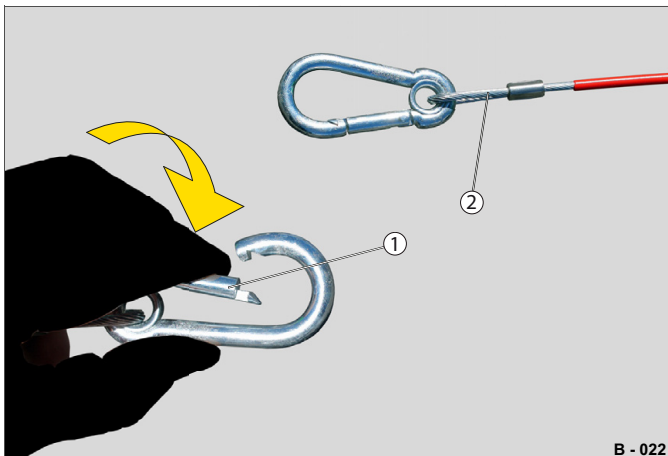

Fig. 20 Safety cable with snap hook
- Press in the snap fastener (Fig. 20 /1) on the snap hook.